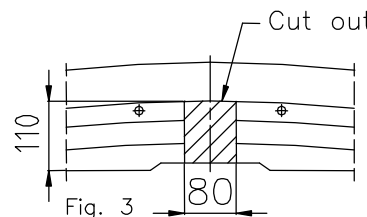

Fig. 3
3. To the left and right chassis member slip sleeve $L=85\text{mm}$ (pos. 10), see fig.
4. To drilled holes put sleeves $L=51,5\text{mm}$ (pos. 9).
5. To the inside of chassis members and rear part of the car put brackets (pos. 4 and 5) and fix using bolts $M10 \times 120\text{mm}$ (pos. 12) through sleeves and bolts $M10 \times 35\text{mm}$ (pos. 14) through nuts on the jib (pos. 8).
6. Put the main bar of the towing hitch (pos. 1) on protruding elements (bolts) of removed metal reinforcement and fix using original nuts $M8$ (from reinforcement) and using $M10 \times 90\text{mm}$ (pos. 13) - see fig.
7. Elements of the towing hitch (pos. 6 and 7) fix loosely to the original tow handle, and next through holes (pos. A) of ball brackets fix using bolts $M10 \times 35\text{mm}$ (pos. 14).
8. Fix body of the automat (pos. 18) and the socket plate (pos. 3) using bolts $M12 \times 25\text{mm}$ (pos. 11) from accessories. Place tow-ball (pos. 2) according to supplied instruction.
9. Assemble a cover plate and a bumper (cut out its fragment - see fig. 3 and 4).